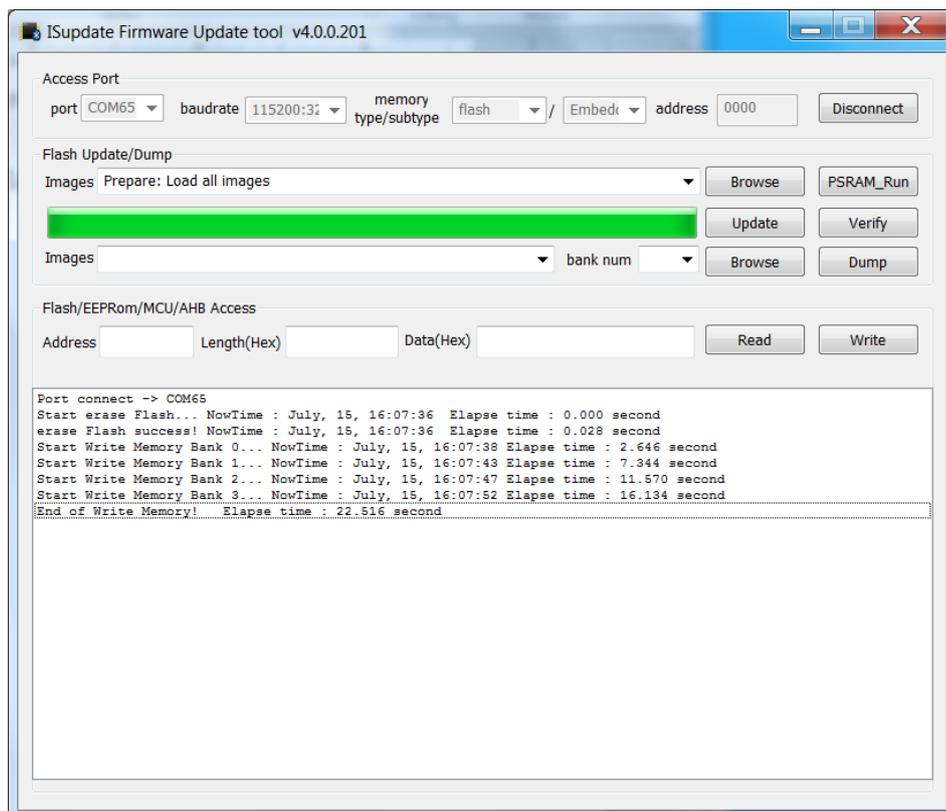

Figure 32: ISUPDATE.EXE firmware update utility
- b. Verify other settings (baud, memory type, address) are set as shown in Figure 32.